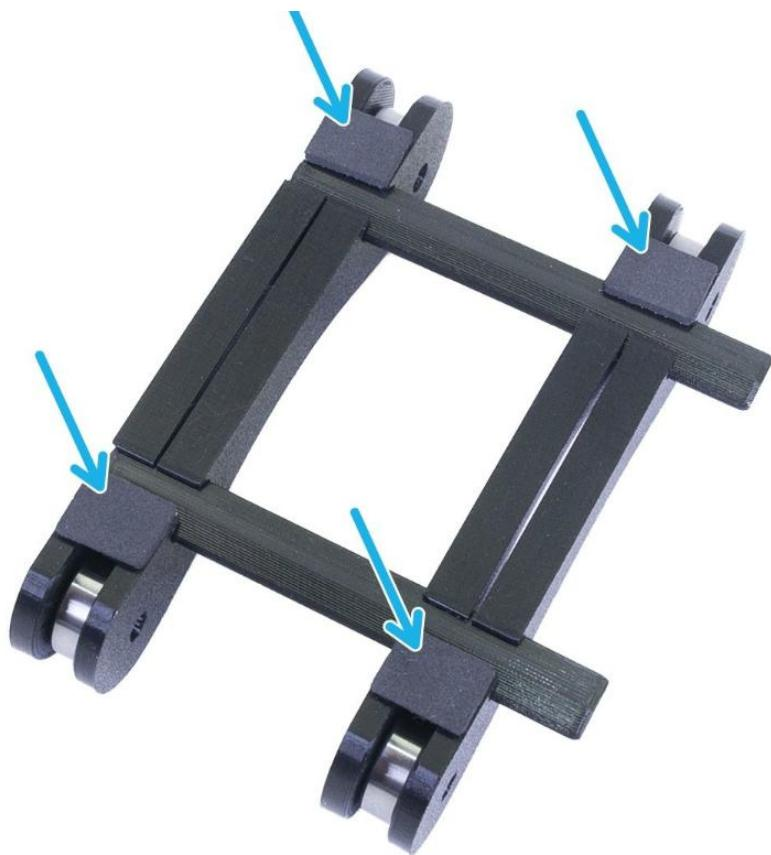

Figure 5.4.11
**B:** As shown in Figure 5.4.11. Peel off the protective film and attach the pads from the bottom side of the spool holder.